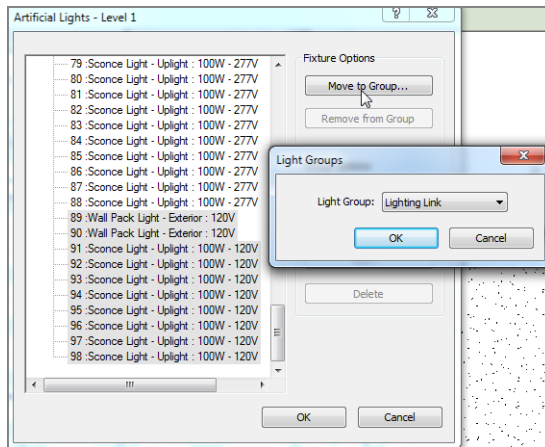

FIGURE 19.14 : Creating a new group, and adding the proper lights
4. Call the new group **Lighting Link**, as shown in Figure 19.14.
5. Scroll down to the bottom of the list, and locate the lights Sconce Light - Uplight : 100W - 120V. Select all of them (see Figure 19.14). Also find the wall packs and add them to the group.